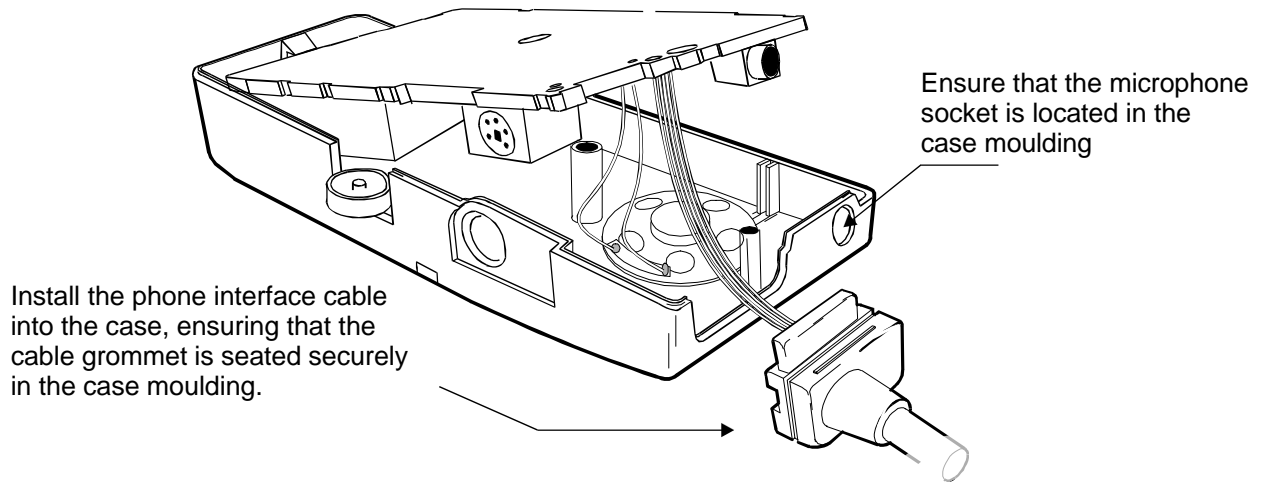

Figure 24: Easy Fit unit, cable positioning
1. (Figure 24) Position the cables into the case moulding; ensuring the interface cable grommet is seated securely in the case moulding and the microphone socket is also located in the case moulding.